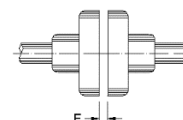

Figure 4.8: Axial clearance of the coupling (E)
Align the shaft ends carefully, and, whenever possible, use flexible coupling, leaving a minimum clearance (E) of 3 mm between the couplings, as shown in Figure 4.8.